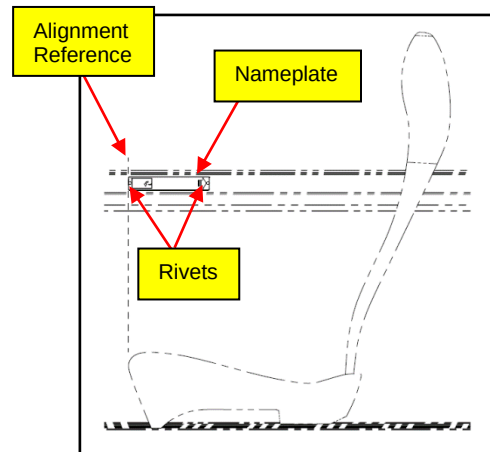

Figure 4: Nameplate Aligned with Seat
6. Position nameplates, items 10 to 13, as close as possible to the front edge of the seat cushion (See Figure 4).